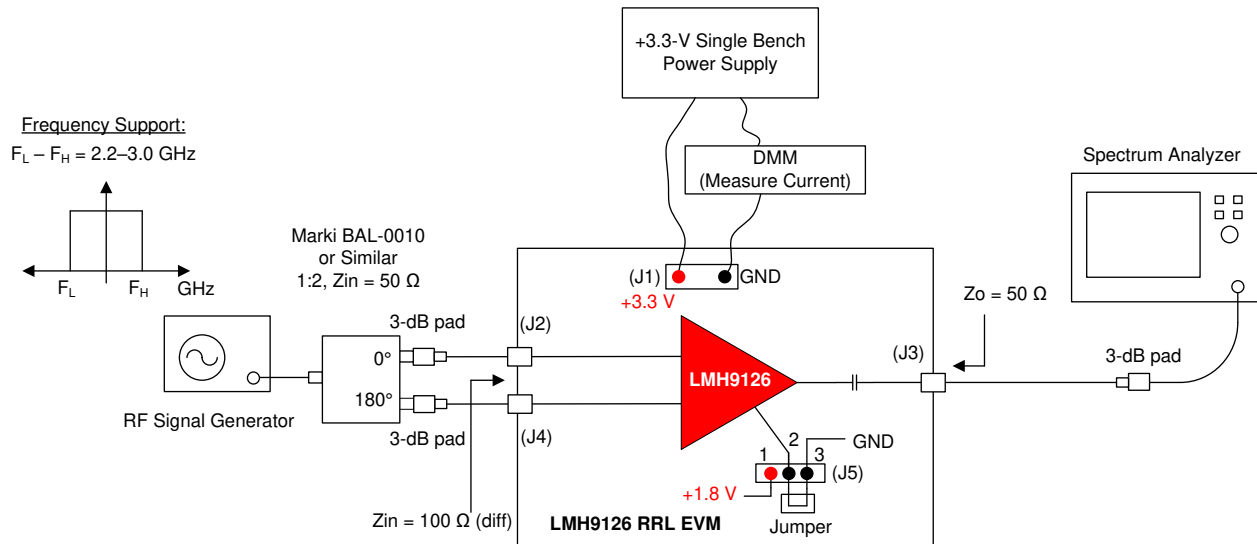

Figure 8. Single-Tone Setup for Gain and Output P1dB (1-dB Compression Point)
1. The input to the EVM is differential. Differential signal is generated from the single-ended output of the signal generator using an external passive balun such as shown in Figure 8. Use of at least 3-dB attenuator pads are recommended at the differential ports of the balun for better matching with the board.
4. When measuring the EVM for single-tone distortion products, TI recommends using an RF band pass filter (not shown in Figure 8) between the signal source and the balun.